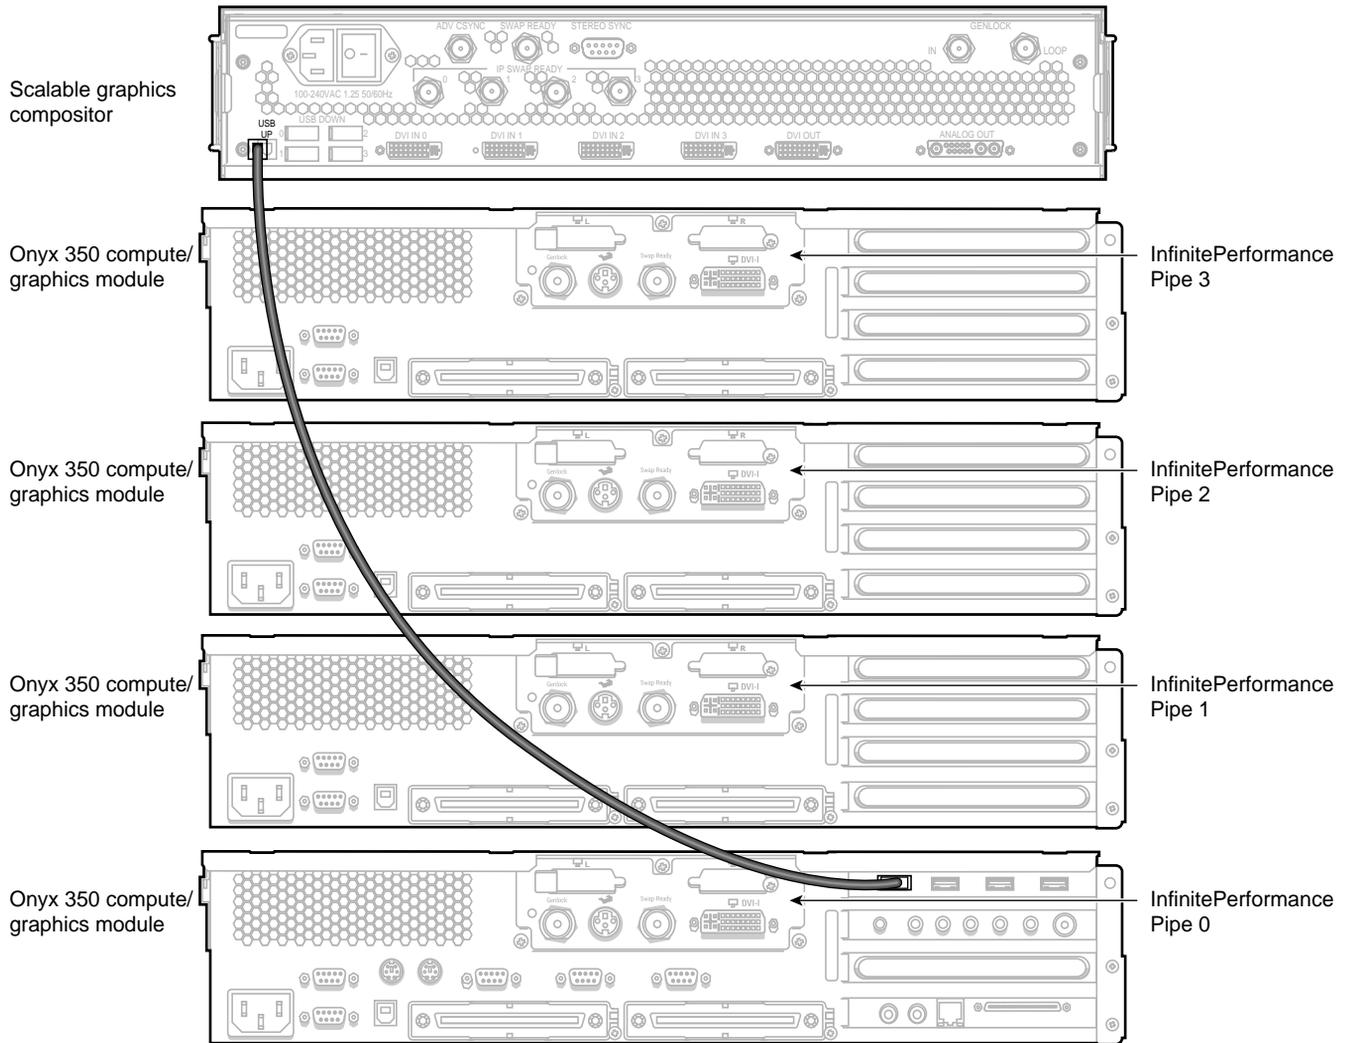

Figure 3-4 Connecting the USB Connectors
3. Using a USB cable, connect the USB UP port on the compositor to a USB DOWN port on the Onyx 350 graphics system which contains pipe 0 (as shown in Figure 3-4):
Note: You may connect additional compositors to the compositor shown in Figure 3-4 with USB cables by connecting the UP port(s) of the additional compositor(s) to the DOWN port(s) of the compositor shown.